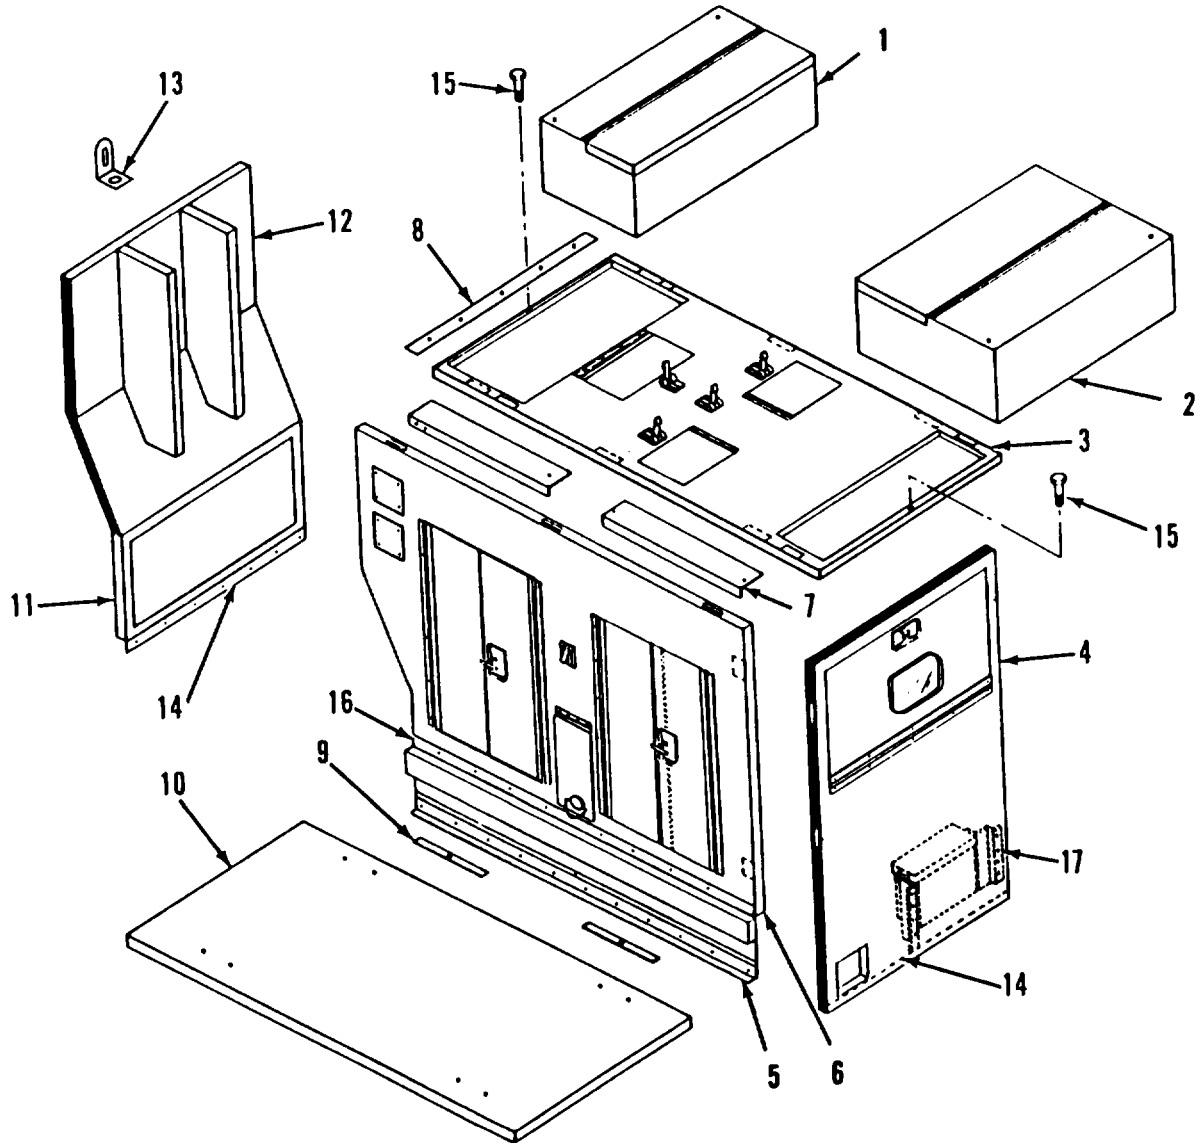

Figure 5-37. Acoustic Suppression Kit Major Components
- (20) Raise side panel skirt 90° and remove from side panel assembly. Remove screws, capscrews, washers, keepers, and remove upper side panel skirt. (Refer to figure 5-37.) Attach lifting sling, and carefully raise and position side panel assembly on mounting member.
- (24) Position front lower panel assembly on generator set. Ensure top rubber flap is in raised position on radiator shell lip. Remove plastic plugs from rotolock holes. Align male and female rotolocks and, using hex tool, turn rotolocks to secure the front lower panel assembly. (Refer to figure 5-37.) Install plastic plugs. Ensure mounting zee is below bottom tray assembly.
- (25) Attach lifting strap to front top panel, and raise front top panel assembly on side panels. Ensure alignment pins fit in holes for proper alignment. Remove plastic plugs from rotolock holes. Align male and female rotolocks and, using hex tool, turn rotolock to secure the front top panel assembly. Remove lifting strap. (Refer to figure 5-37.) Install plastic plugs.
- (26) Position exhaust extension on engine exhaust. Install and tighten clamp to secure the exhaust extension. Exhaust extension opening must be pointed down and must not interfere with other components later.
- (27) Attach lifting strap on rear panel assembly, and position rear panel assembly on generator set. Ensure alignment pins are in holes for proper alignment. Remove plastic plugs from rotolock holes. Align male and female rotolocks and, using hex tool, turn rotolocks to secure the rear panel assembly. Remove lifting strap. (Refer to figure 5-37.) Install plastic plugs. Ensure mounting zee is below bottom tray assembly.
- (28) Attach lifting sling to roof panel assembly, and position on generator set. Ensure alignment pins are in holes. It may be necessary to use C-clamps to pull the side panels into position using the lifting clevis as an anchor for the C-clamp. Remove plastic plugs from rotolock holes. Align male and female rotolocks and, using hex tool, turn rotolocks to secure the roof panel assembly. Remove the lifting sling. (Refer to figure 5-37.) Install plastic plugs. Install two socket head capscrews to secure roof panel assembly.
- (29) Slide sealing angle into position, and tighten capscrews.
- (30) Tighten capscrews securing mounting members.
- (31) Attach lifting sling to inlet turn assembly, and position on roof assembly. Remove the lifting sling. Remove plastic plugs from rotolock holes. Align male and female rotolocks and, using hex tool, turn rotolocks to secure the inlet turn assembly. (Refer to figure 5-37.) Install plastic plugs.
- (32) Attach lifting sling to discharge turn assembly, and position on roof assembly. Remove the lifting sling. Remove plastic plugs from rotolock holes. Align male and female rotolocks and, using hex tool, turn rotolocks to secure the discharge turn assembly. (Refer to figure 5-37.) Install plastic plugs.